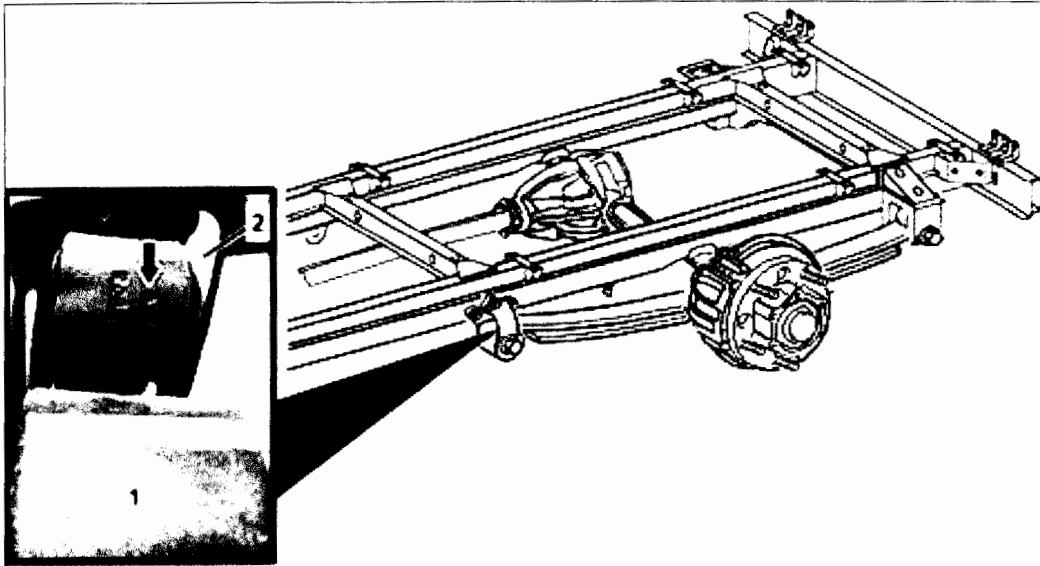

Figure 1
1. Check if batch number (arrow, Figure 1) is stamped on top of the front mounting eye (1, Figure 1) of rear axle spring using a mirror (2) then repeat inspection on opposite side: